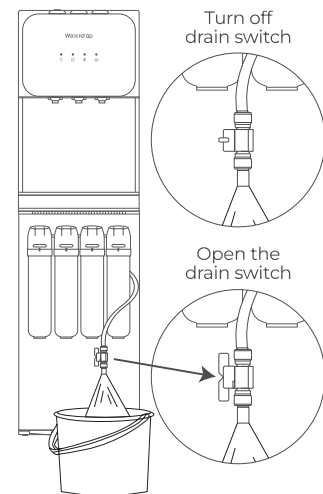

Figure 6
- ①. Open the drain switch next to the filter (inside the lower door) and place the drain outlet into a bucket. (Figure 6)